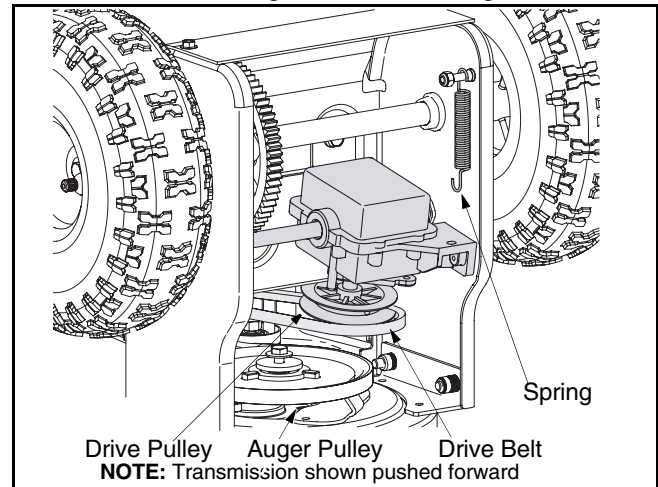

Figure 15
- Remove the spring that connects the transmission to a bolt on the engine frame. See Figure 15.
- Place the new drive belt into the groove on the engine pulley. See Figure 15.